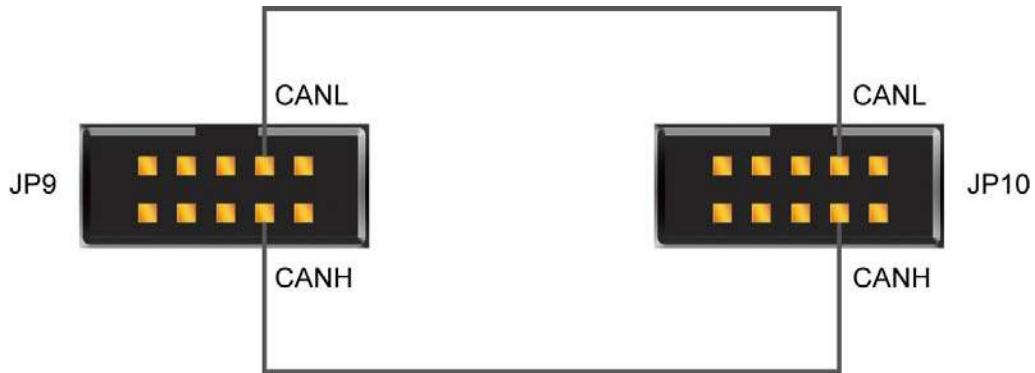

Figure 5-7 Wiring for CAN loopback test
- Connect 'H' and 'L' wire of CAN 0 and CAN1 respectively. Figure 5-7 shows the wiring manner for the CAN loopback test.